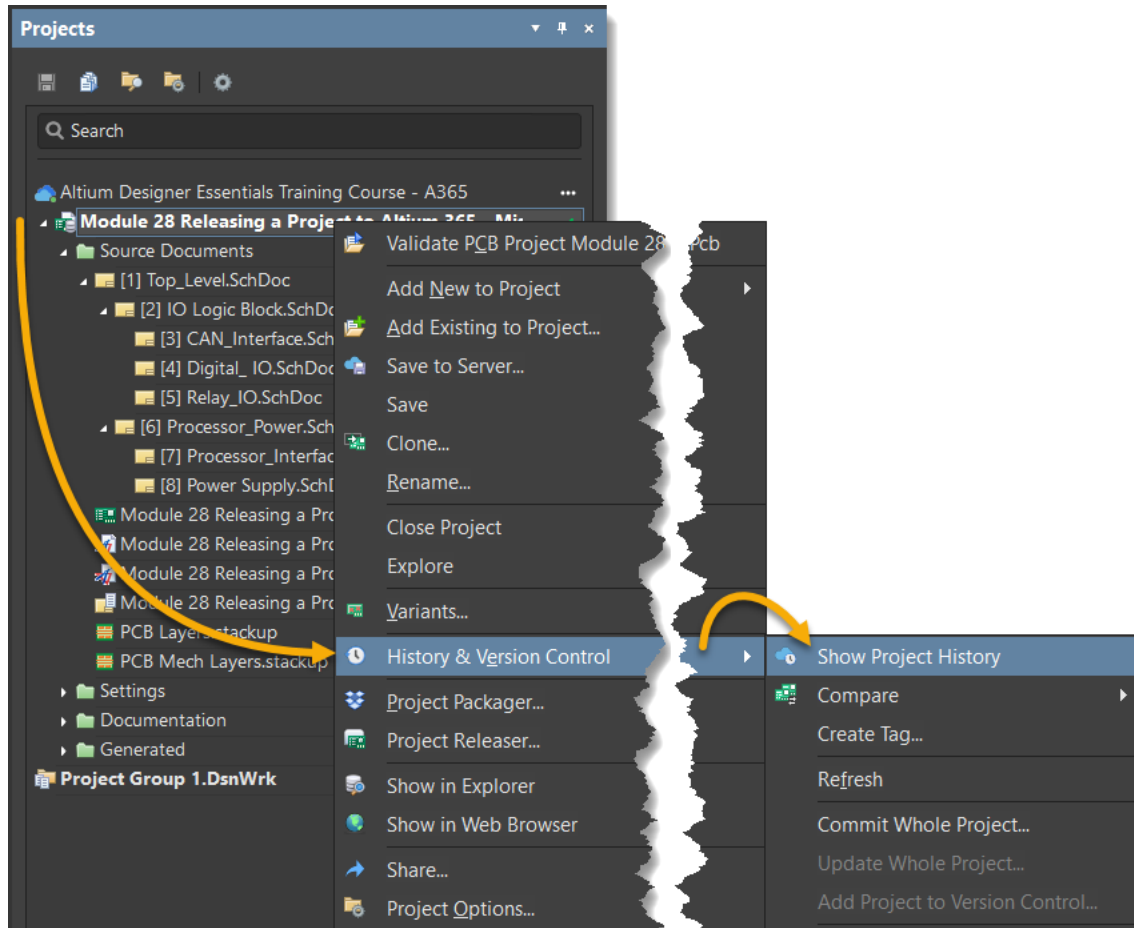

Figure 11. Open the Project History view
39. At the *Project* panel, select the Project, right-click and execute the command **History and Version Control - Show Project History**, Figure 11.